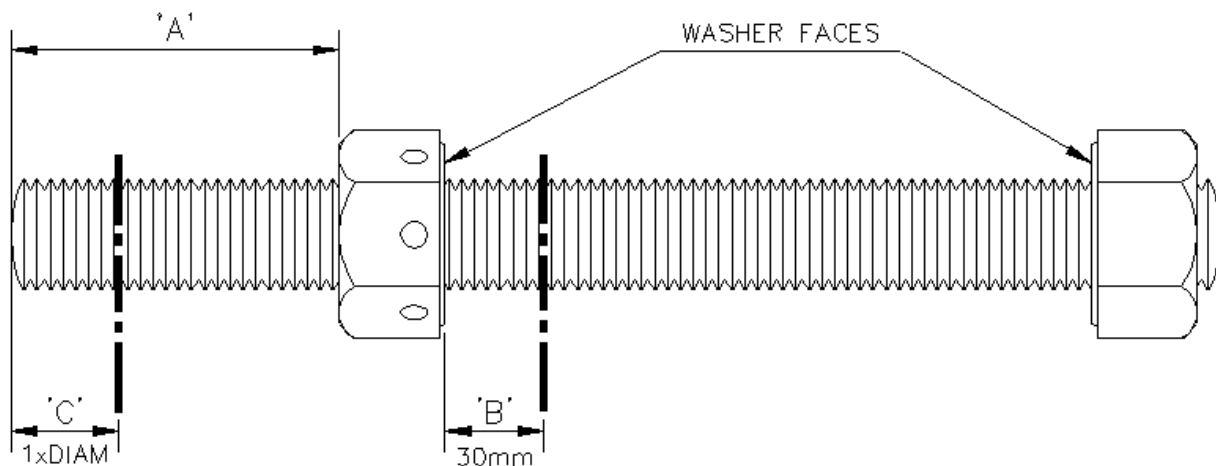

Figure 4: BOLT PREPARATION
- 4.1.2.1. To accommodate the AquaMax® tensioner an extended portion of bolt is required above the drilled hexagonal nut (Figure 4). It is recommended that this extension (length 'A') be pre-set before lowering the bolts underwater.
- 4.1.2.3. The drilled hexagonal nut must be free-running on all bolts over the entire length 'A' and especially over the 30 mm length 'B' (Figure 4).
- 4.1.2.4. Assemble the Quick-Fastening reaction nuts to the end of the bolt protrusions, length 'C' (Figure 4), ensuring that the Quick-Fastening reaction nut locking mechanism fully and easily engages.